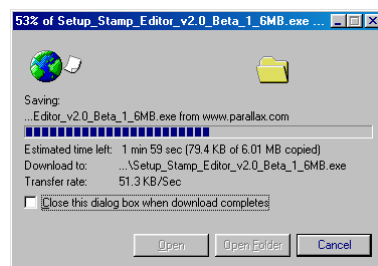

Figure 1-12
- ✓ Wait while the BASIC Stamp Editor installation program downloads (shown in Figure 1-12). This may take a while if you are using a modem connection.